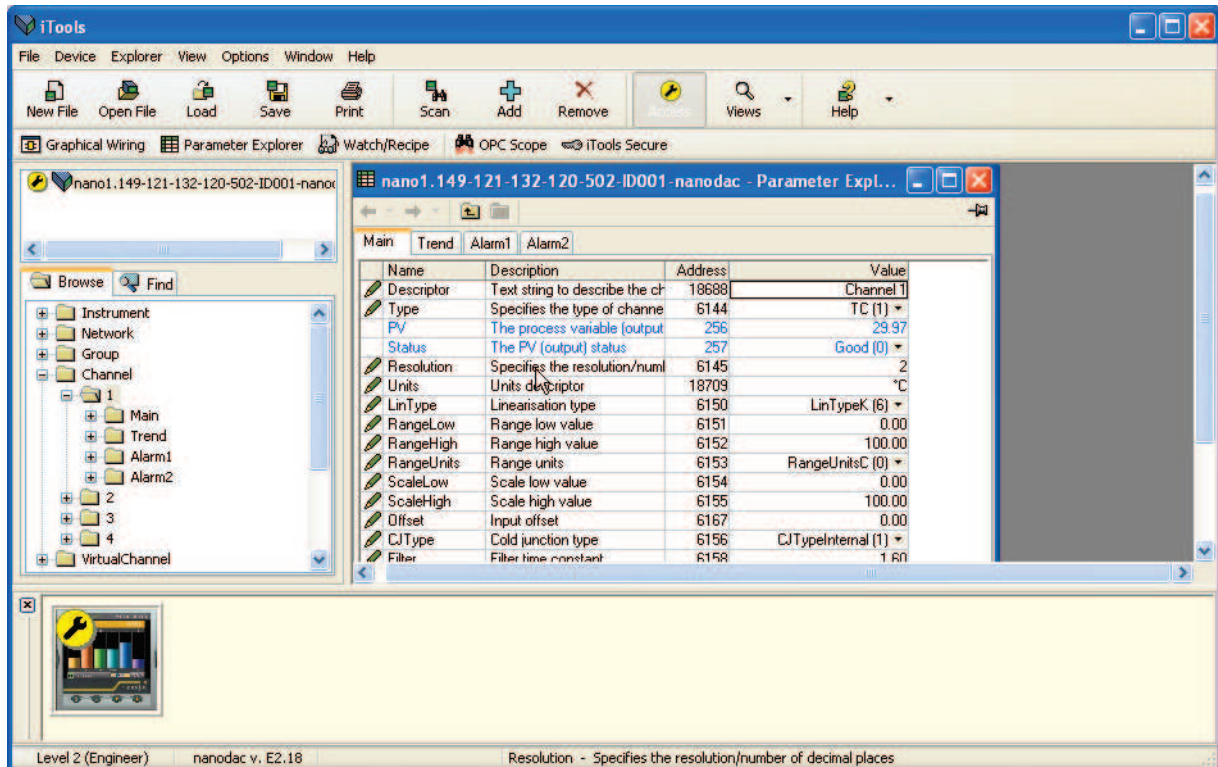
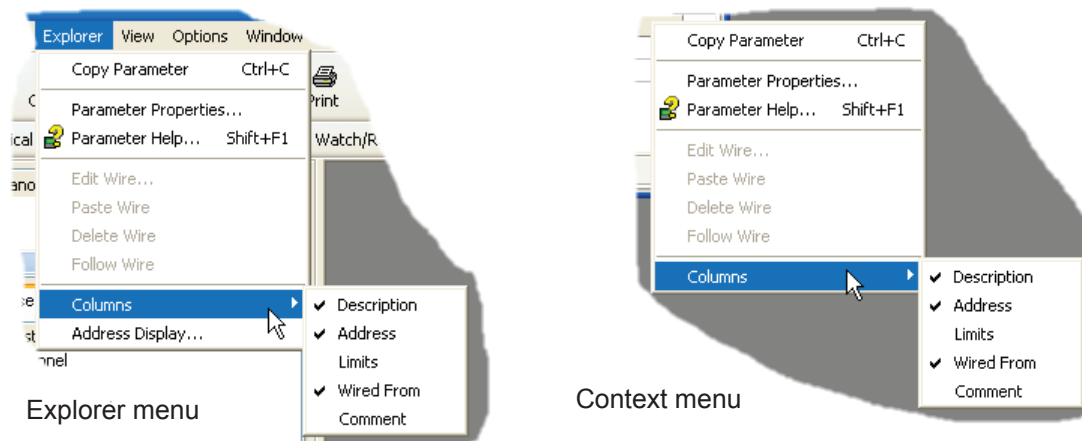

Figure 126 Parameter table example
Figure 127 Column enable/disable
In each case the function block parameters appear in the iTools window in tabular form, such as the example in Figure 126, below.
The figure above shows the default table layout. Columns can be added/deleted from the view using the 'Columns' item of the Explorer or context menus (Figure 127).
- Note:** 2. Columns. The default explorer window (Figure 126) contains the columns ‘Name’, ‘Description’, ‘Address’, ‘Value’, and ‘Wired From’. As can be seen from Figure 127, the columns to be displayed can be selected, to a certain extent, using either the ‘Explorer’ menu or the context menu.